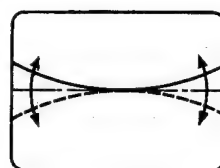

Fig. 31
6. Tilt the DY up and down, match the R and B for H line of centre. (Fig. 31)